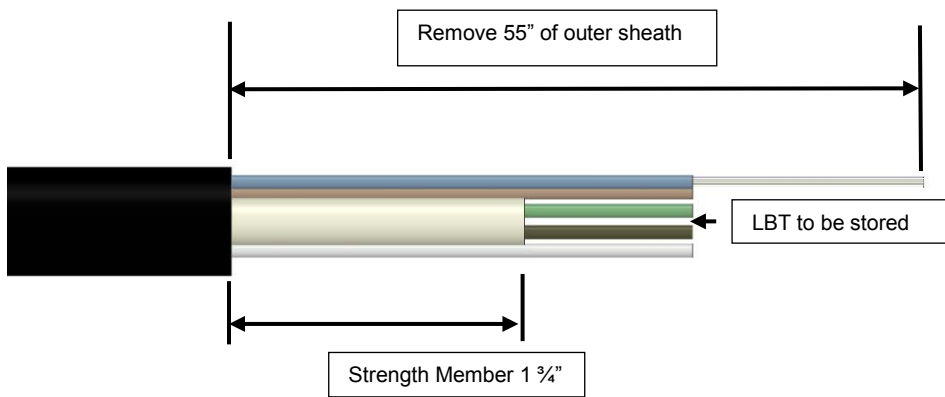

Figure 8
6.1.1 Remove 55" of outer sheath from end of cable. See Figure 8.
6.1.2 Cut strength member(s) 1 3/4" from end of sheath openings. See Figure 8. If Flat Drop has a trace wire, cleanly cut away 4" of wire from end of sheath opening. See photos 114-115.